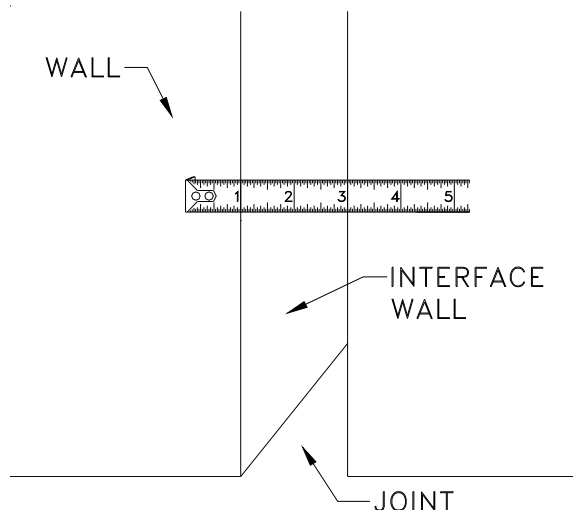

Figure 2
- A. The size of the joint opening measured at a 70°F temperature should be verified and recorded by the Engineer of record (see Figure 2). Please note that the joint size provided in Figure 2 is representative, and the actual required joint size may vary from that indicated in Figure 2.